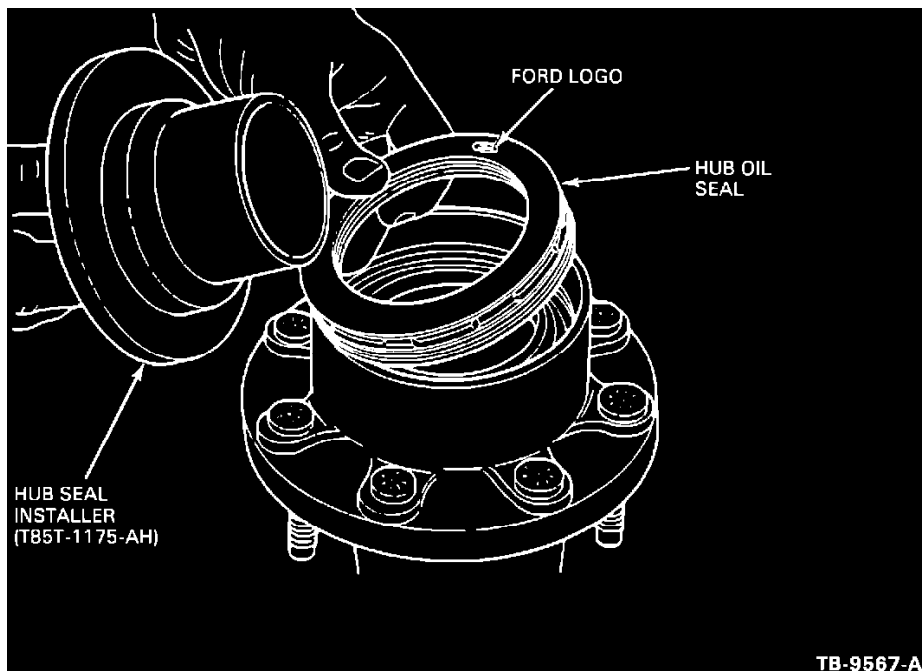

FIGURE 12
1. Position hub seal with the "Ford" logo facing up, Figure 12.